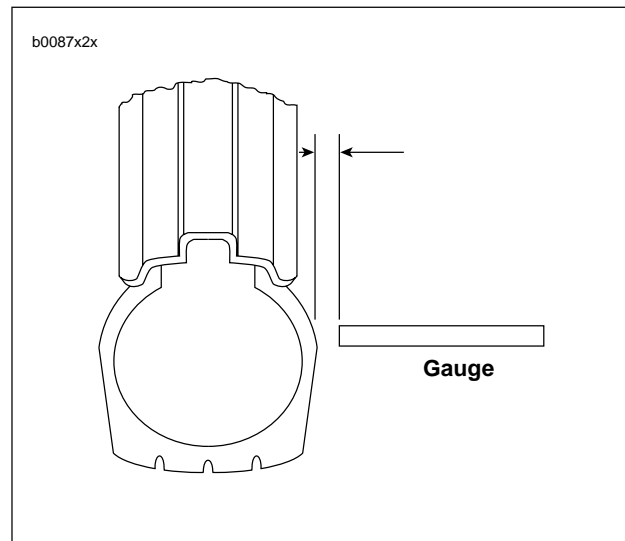

Figure 2-29. Checking Tire Lateral Runout
1. See Figure 2-29. Turn wheel on axle and measure amount of displacement from a fixed point to tire sidewall.